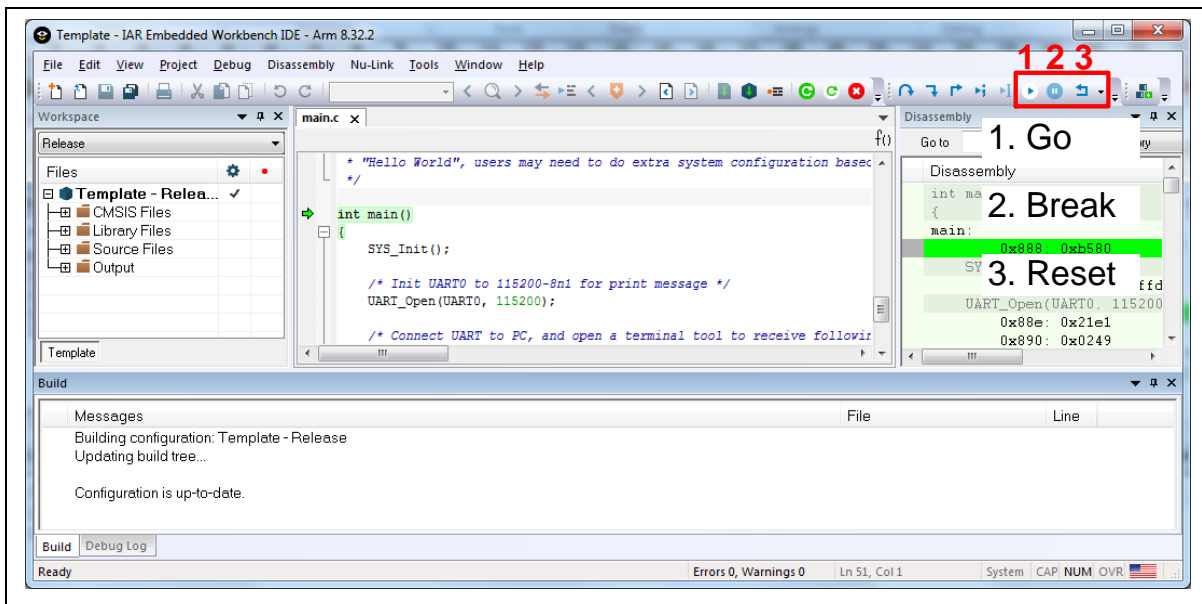
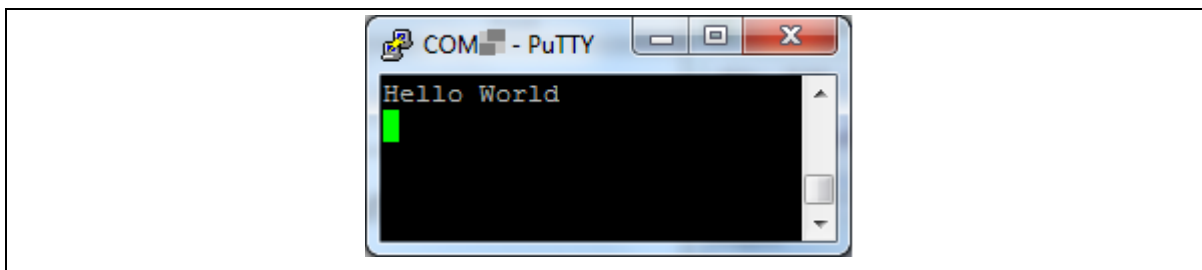

Figure 4-17 IAR EW8051 Debug Mode
Figure 4-18 Debug Message on Serial Port Terminal Windows
- Figure 4-17 shows the debug mode under IAR EW8051. Click “Go” and the debug message will be printed out as shown in Figure 4-18. User can debug the project under debug mode by checking source code, assembly language, peripherals’ registers, and setting breakpoint, step run, value monitor, etc.